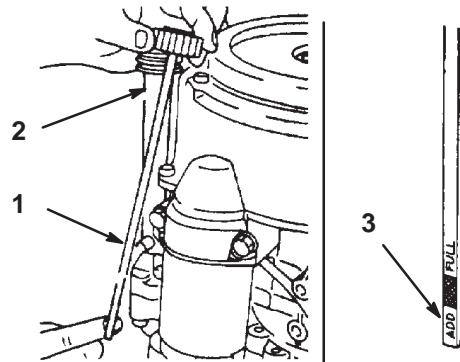

Figure 33
2. Clean around the oil dipstick (Fig. 33) so dirt cannot fall into the filler hole and damage the engine.
3. Unscrew the oil dipstick and wipe the end clean (Fig. 33).
4. Slide the oil dipstick fully into the filler tube, do not thread onto tube (Fig. 33). Pull the dipstick out and look at the end. If oil level is low, slowly pour only enough oil into the filler tube to raise the level to the *full* mark.
6. Slowly pour approximately 80% of the specified oil into the filler cap (Fig. 33). Refer to Servicing the Engine Oil, page 29.